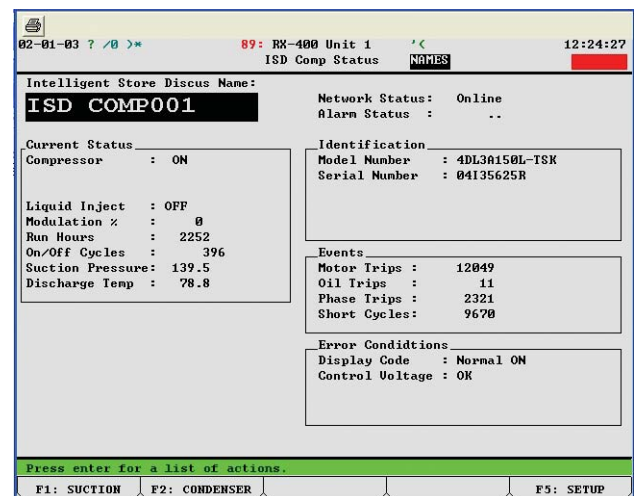

Figure 3.16 ISD Status Screen
3. Select the desired ISD device and press Enter. The display should look like figure 3.16 below.